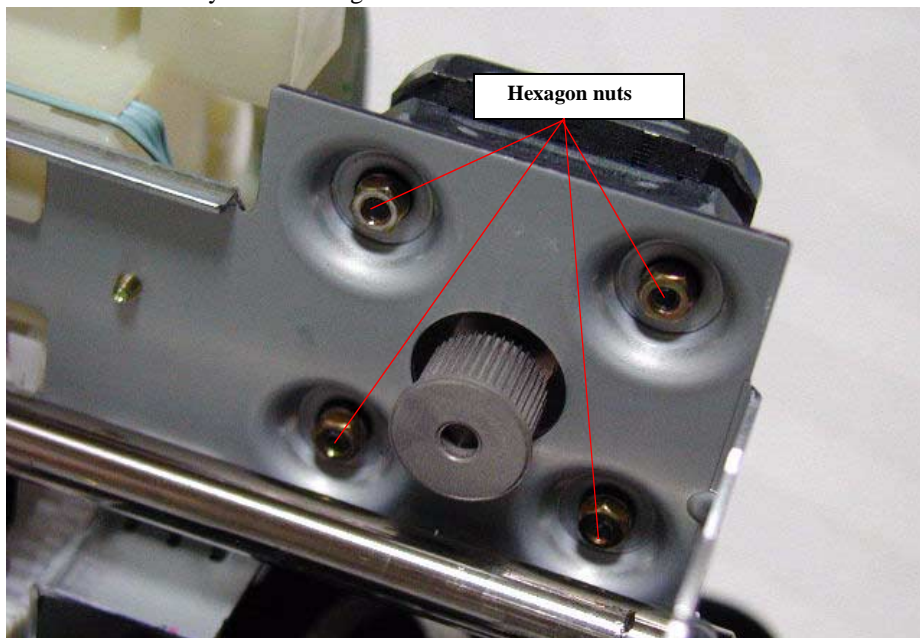

Figure 4-11. Removing the CR motor
4. Remove four Hexagon Nuts while holding the CR motor and remove the CR motor assembly. Refer to Figure 4-11.